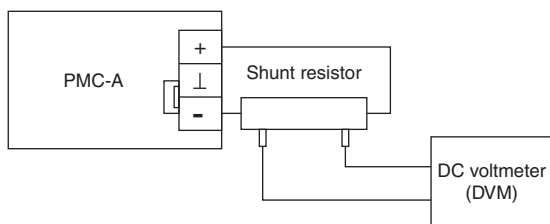

Fig. 6-3 Connection for current system calibration
2. Connect the cables as shown in Fig. 6-3.